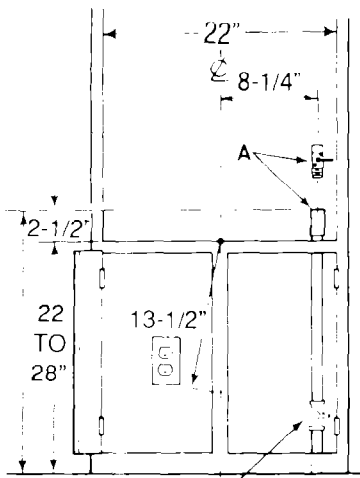

FIG. 4 SHUT OFF VALVE HERE IF REQUIRED BY LOCAL REGULATIONS
Use 1/2" gas inlet pipe. The hole for the gas inlet pipe should be 8-1/4" right of the center line of the cabinet (see Figure 4) and 23" behind the front surface of the cabinet. Connect a 1/2" coupling to the inlet pipe. The top of the coupling should be about 2-1/2" above the bottom edge of the cutout opening (see Figure 4). Before you put the oven into the cabinet opening, connect the 1/2" reducer shut-off valve to the coupling (see point A in Figure 4). This valve is supplied with the oven and is wire-tied to the back of the unit.
2. Relocate and raise your gas inlet pipe if necessary. See figure 4. The 2-1/2" dimension (shown in figure 4) need only change if your cutout height is more than 38-1/2". If your cutout height is more than 38-1/2", increase the 2-1/2" dimension shown in figure 4 by amount measured in step 1, above.